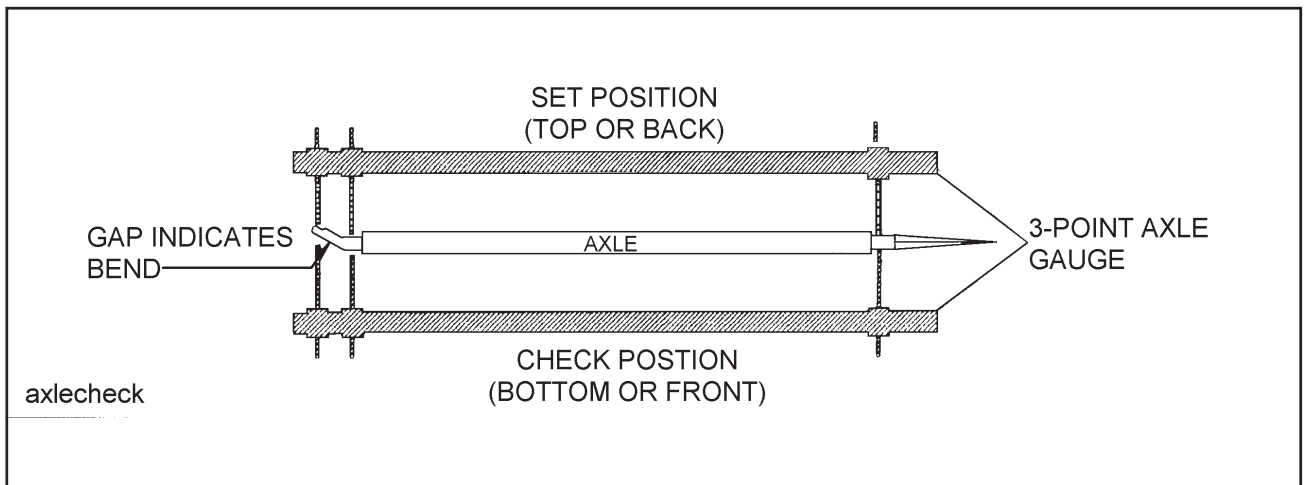

Figure 4-6 Checking Axle for Bend
- b. Place a 3-point axle gauge against the front side of the axle, and adjust each axle gauge point to the axle. (Double point end against the inner and outer wheel bearing surfaces of the spindle being checked and the other point on the inner bearing surface on the other spindle.) (See Figure 4-6).
- c. Move the axle gauge and place against the back side of the axle. If either of the points of double point end fails to touch the axle surface, a bent spindle is evident. A point gap of .015" or more is considered excessive tire "toe" and the axle must be replaced (See Figure 4-6).